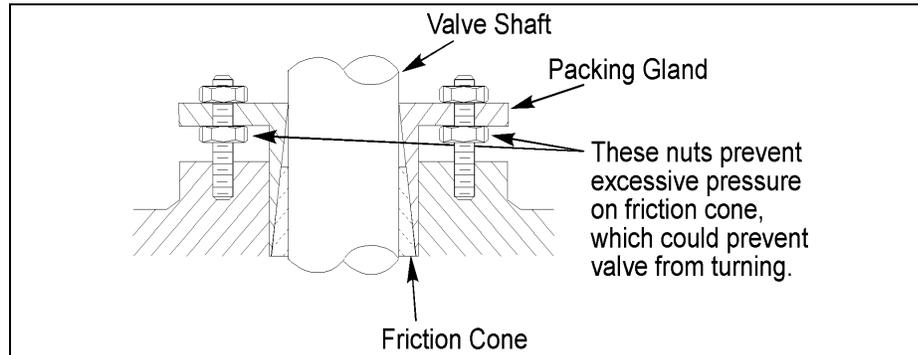

**Figure 4 — Correct Packing Installation Sequence**
8. For valves with low friction packing, lubricate the new packing (A9), then install it one ring at a time in the sequence shown in Figure 4.
8. For valves with low friction packing, lubricate the new packing (A9), then install it one ring at a time. See Figure 4.